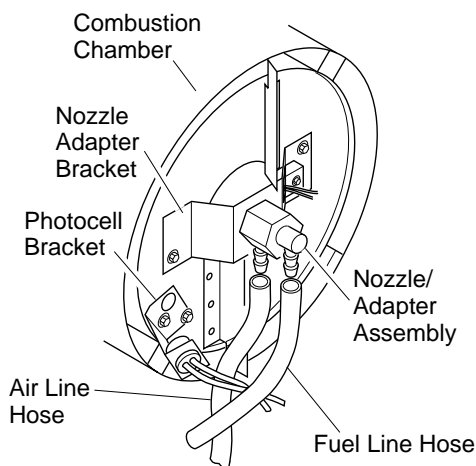
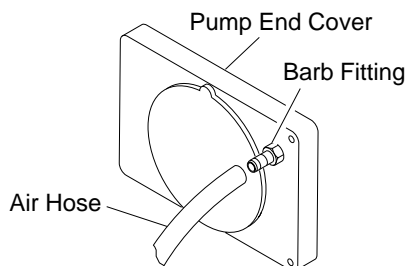

Figure 17 - Removing Air and Fuel Line Hoses (REM12CEH Model Only)
Figure 22 - Air Hose to Barb Fitting
14. Replace photocell in photocell bracket. Route wires as shown in either Figure 17, 18, or 19, page 11.
3. Remove fuel and air line hoses from nozzle assembly (see Figure 17, 18 or 19).
4. Inspect fuel and air line hoses for cracks and/or holes. If fuel line hose is damaged, disconnect from nozzle adapter (see Figure 17, 18, or 19) and from fuel filter (see page 8). If air line hose is damaged, disconnect from nozzle adapter (see Figure 17, 18, or 19) and from barb fitting on pump end cover (see Figure 22).
5. Install new air and/or fuel line. Attach one end of air line hose to barb fitting on pump end cover (see Figure 22) and the other end to nozzle adapter (see Figure 17, 18, or 19). Attach one end of fuel line hose to fuel filter (see page 8) and the other end to nozzle adapter (see Figure 17, 18, or 19).
For REM12CEH model heaters, route air and fuel lines approximately as shown in Figure 17.